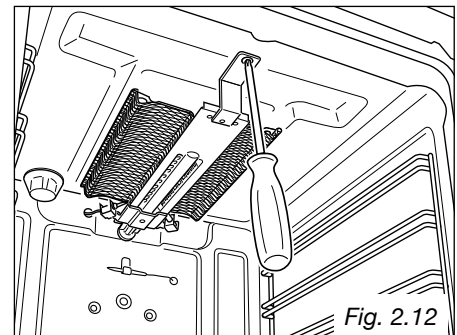

Fig. 2.12
- Remove the burner by unscrewing the front screw (fig. 2.12).